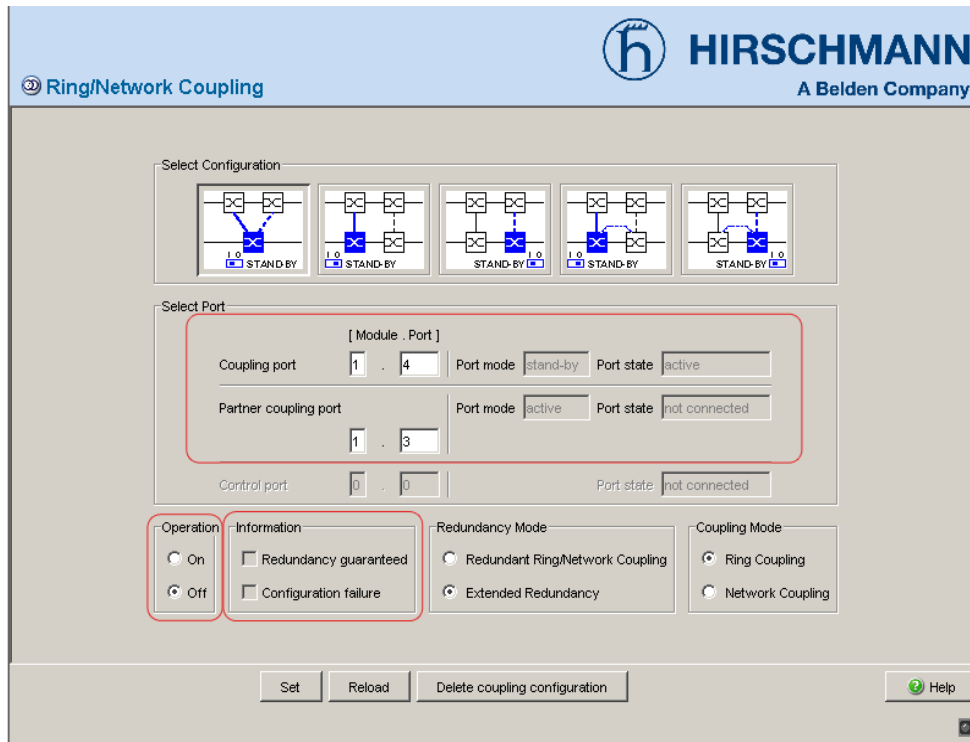

Figure 41: Selecting the port and enabling/disabling operation
- Select the partner coupling port (see fig. 41), (see table 14).
- Select the coupling port (see fig. 41), (see table 15).
- Activate the function in the “Operation” frame (see fig. 41).
The displays in the “Select port” frame mean (see fig. 41):
The displays in the “Information” frame mean (see fig. 41):